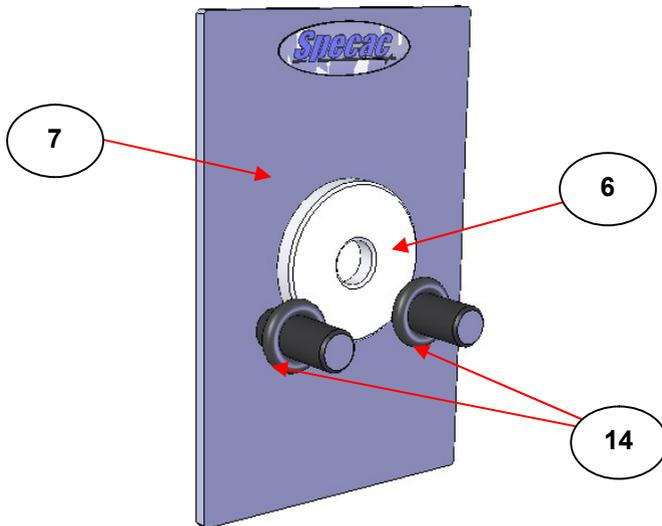

Fig 7. 7mm Pellet Die Ring Holder on 3" x 2" Slide Mount
The complete die ring holder (6) with KBr pellet is now placed into an infra red spectrometer system by use of the 3" x 2" slide mount holder (P/N GS03960) (7). The die ring holder (6) rests simply on the two support rods of the 3" x 2" slide mount holder (7) and is held tight against the 3" x 2" slide plate by compression of the two O-rings (14) supplied having been slid over the support rods as shown. (See Fig 7.)